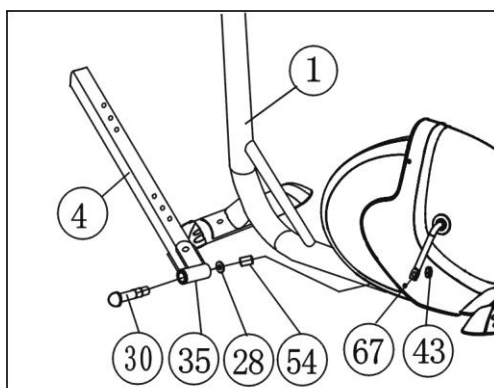

Figure 7
Do the same steps as above to assemble the right Pedal support tube (4) to the right pedal axis (31). (Refer figure 7)